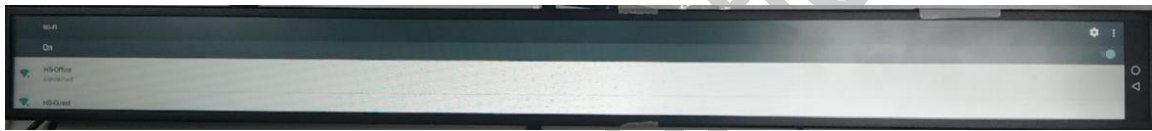

Figure 4-5 Wireless network connected successfully
After the configuration is complete, tap the **Save** button. The system automatically connects to the wireless network according to the configurations. If the connection is successful, the screen displays “Connected”, as shown in Figure 4-5.
2. On the upper-right corner of the page, tap the switch to turn on the Ethernet connection function. Ethernet settings also support DHCP and static IP settings, as shown in Figure 4-5.